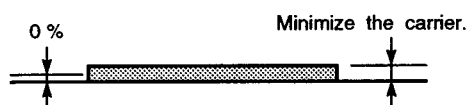

Fig. 5-1-31
- Adjust VR106 so that the Pedestal level becomes 0 % and the carrier becomes minimum as shown in Fig. 5-1-31.
- Adjust VR206 so that the Pedestal level becomes 0 % and the carrier becomes minimum as shown in Fig. 5-1-31.
- Adjust VR306 so that the Pedestal level becomes 0 % and the carrier becomes minimum as shown in Fig. 5-1-31.